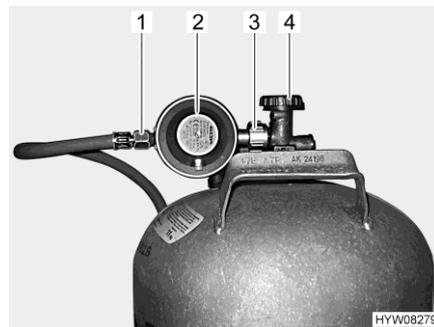

Fig. 124 Gas bottle connection
- Close the regulator tap (Fig. 124,4) on the gas bottle. Pay attention to the direction of the arrow.
- Hold the gas pressure regulator (Fig. 124,2) and open the knurled nut (Fig. 124,3) (normally a left-hand thread).
- Remove the gas pressure regulator and the gas tube (Fig. 124,1) from the gas bottle.
- Position the gas pressure regulator (Fig. 124,2) with gas tube (Fig. 124,1) on the gas bottle and tighten the knurled nut (Fig. 124,3) (normally a left-hand thread). **Do not** tighten too firmly.